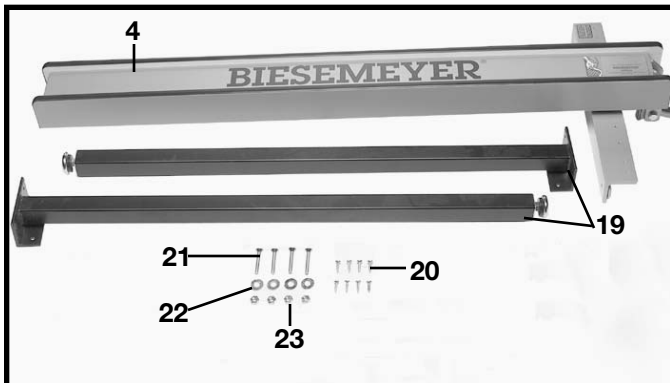

Fig. 5
- 4 - T-Square® Fence Assembly (Fig. 5)